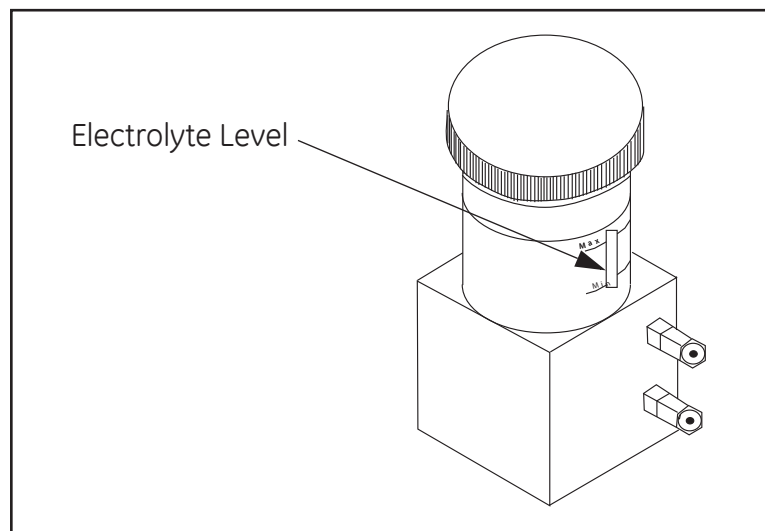

Figure 7: Delta F Oxygen Cell Electrolyte Level
The Delta F Oxygen Cell is available with various types of mounting enclosures. However, the cell itself will always look like the one shown in *Figure 7* below.
3. Using the min/max window on the oxygen cell, check the electrolyte level. The electrolyte should cover about 60% of the window (see *Figure 7 on page 12*). The cell is now ready to be connected to the gas line.